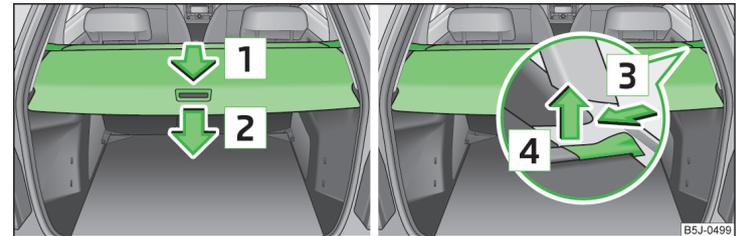

Fig. 66 Boot: foldable boot cover/removing foldable boot cover
- Pull the retractable luggage compartment cover in direction of arrow **[1]** » Fig. 66 as far as the stop into the secured position.